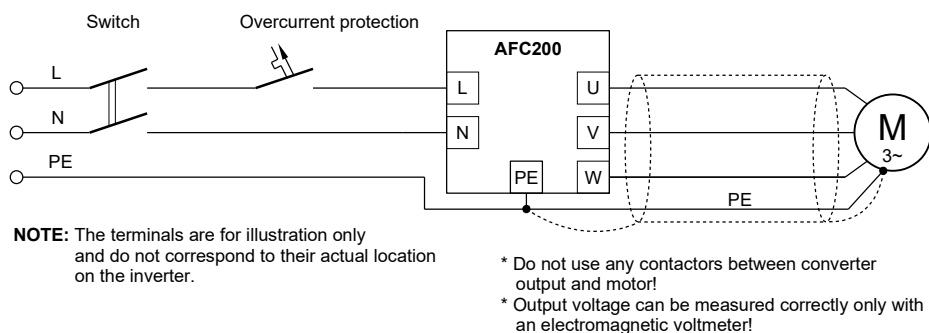

Figure 2.3. Connection of power circuits to AFC200 frequency converter
- Figure 2.3 shows the scheme of power circuits connections.
The connection should be made according to Fig. 2.3 on page 16: